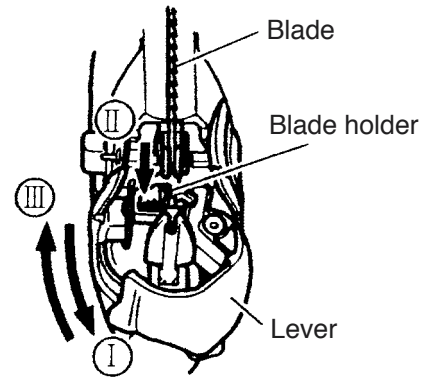

Fig. 1
- 1) Open the lever up to the stop. (Fig. 1- I)
- 3) Insert new blade up to the stop in the blade holder. (Fig. 1- II)
- 4) Close the lever. (Fig. 1- III)